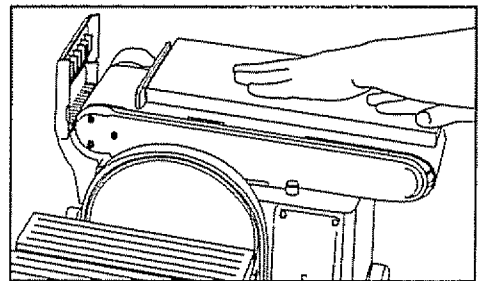

Fig. 18
■ Surface or edge sanding on the sanding belt (see figure 18)